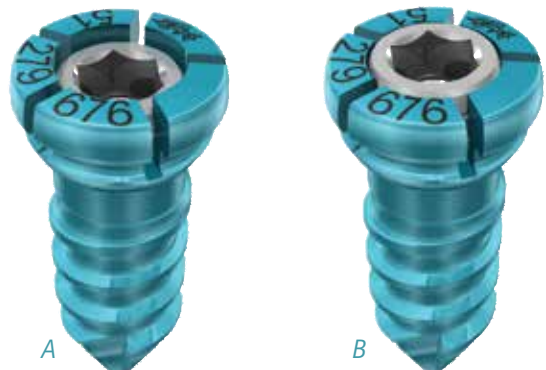

Fig. 29: View of the five-segmented screw head in the unlocked (A) and locked (B) positions
**At this time, the surgeon should verify that the screw is locked by checking that the internal pin sits flush with the top of the screw head (Fig. 29).**